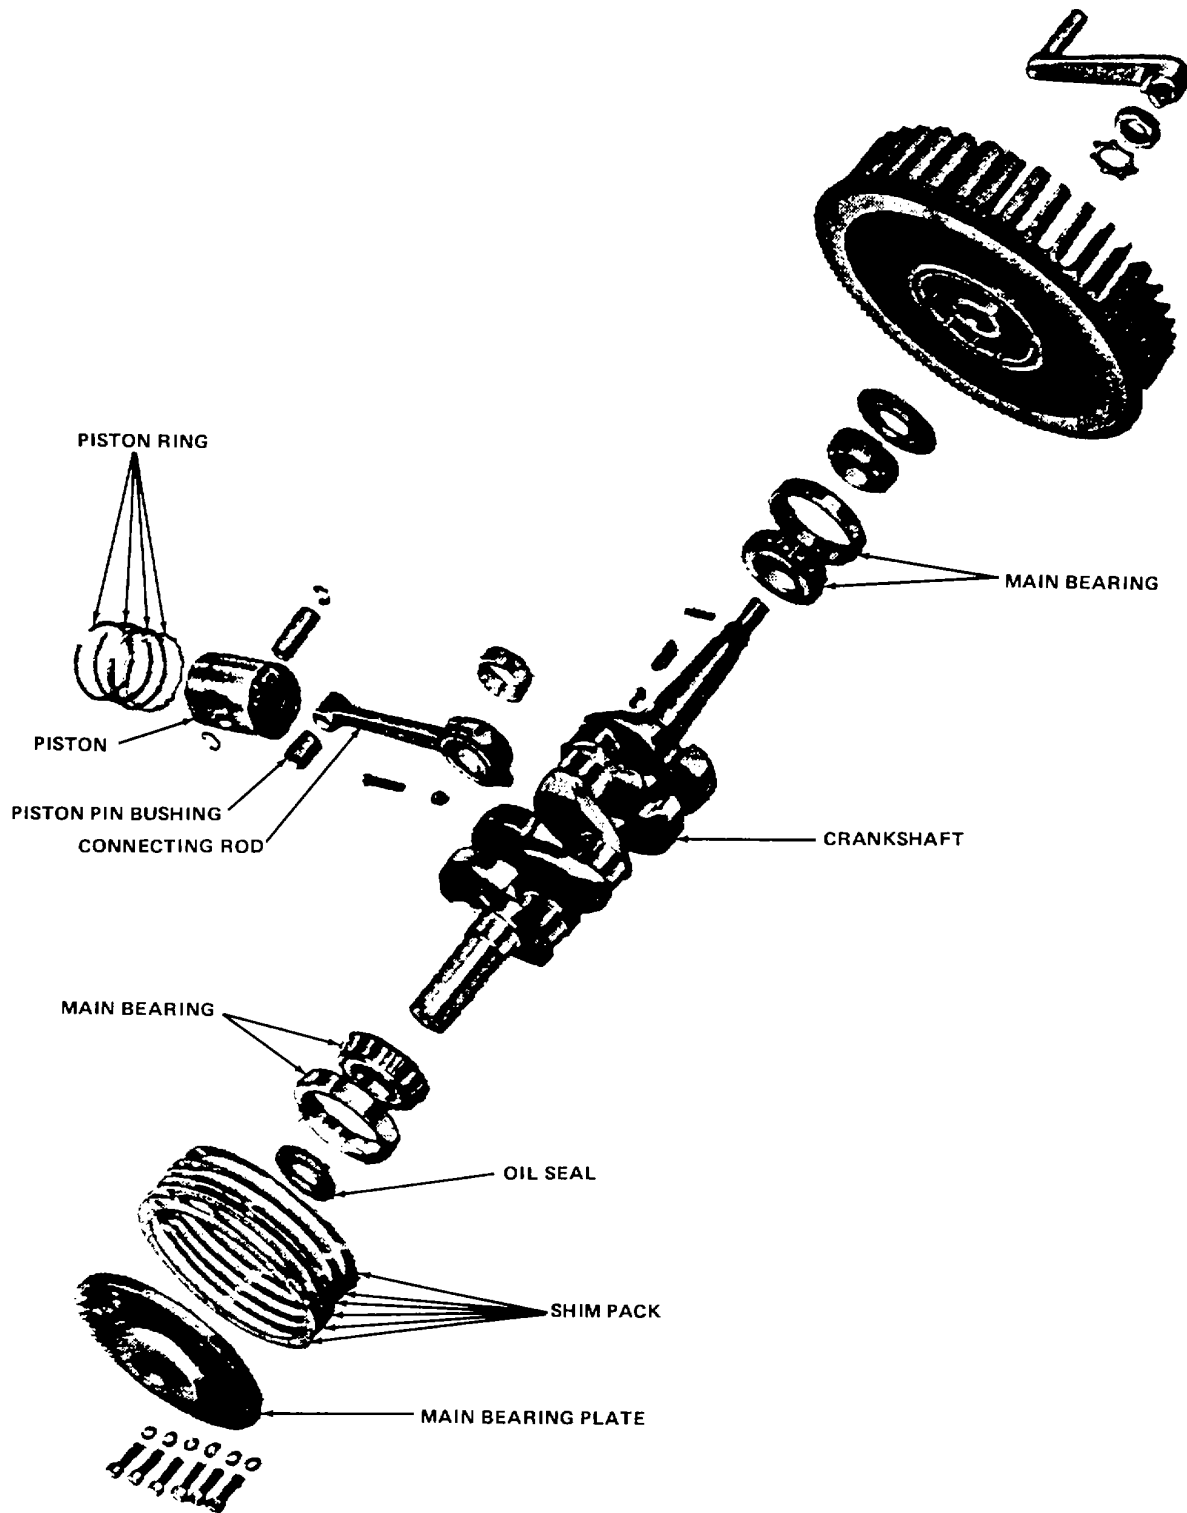

Figure 6-25. Pistons, Piston Rings, and Connecting Rods
a. Crankshaft. (Figure 6-25)
- (1) Regrind crankshaft as required.
- (2) Replace main bearings as required.
- (17) Manually rotate camshaft until the valve tappet is at its lowest point. Adjust each valve tappet in turn so that the cold clearance is .008 inch for intake and .016 inch for exhaust valves.
- (18) Position valve inspection cover and new gasket over opening in cylinder block. Secure each cover to block with one 5/16-18" x 1-1/2" screw and 5/16" copper washer.
d. Pistons, Piston Rings and Connecting Rods. (Fig. 6-25)